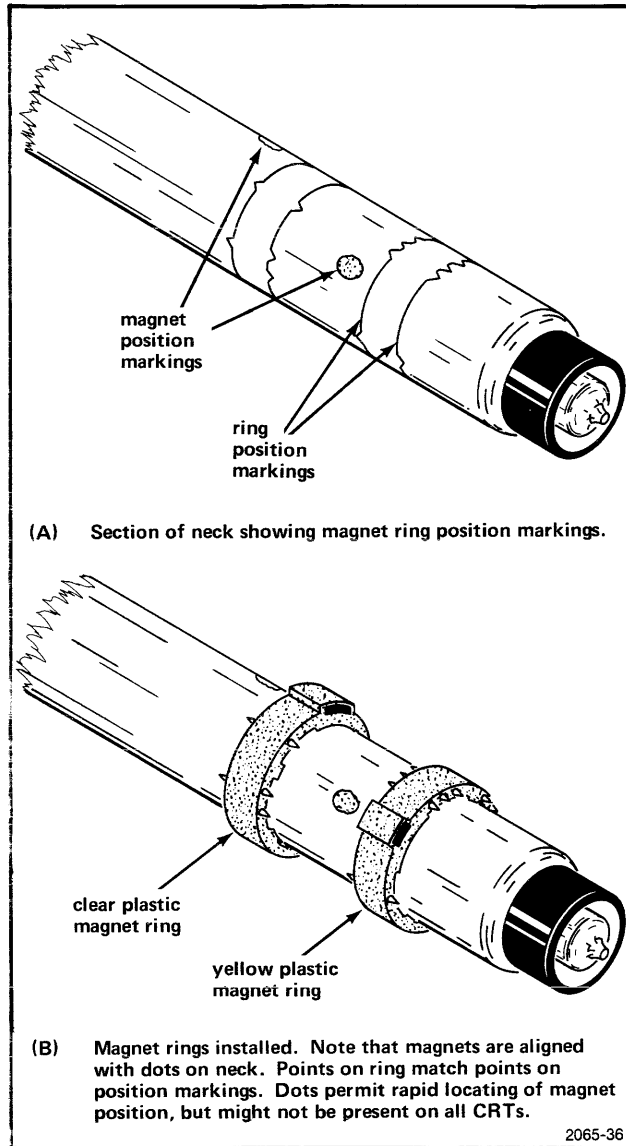

Fig. 3-18. CRT Magnet ring location details. The magnet rings should be used only when supplied with the CRT.
9. After fastening the mounting frame to the chassis, replace the magnets (Fig. 3-18) if any are required on the crt neck.